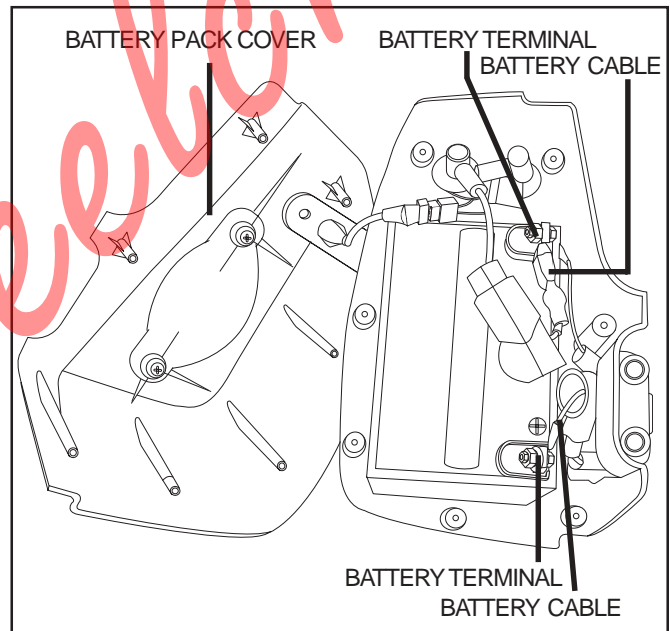

Figure 9. Battery Replacement
4. Arrange the pack so the handle is facing up and slowly remove the cover and situate it as shown in figure 9.